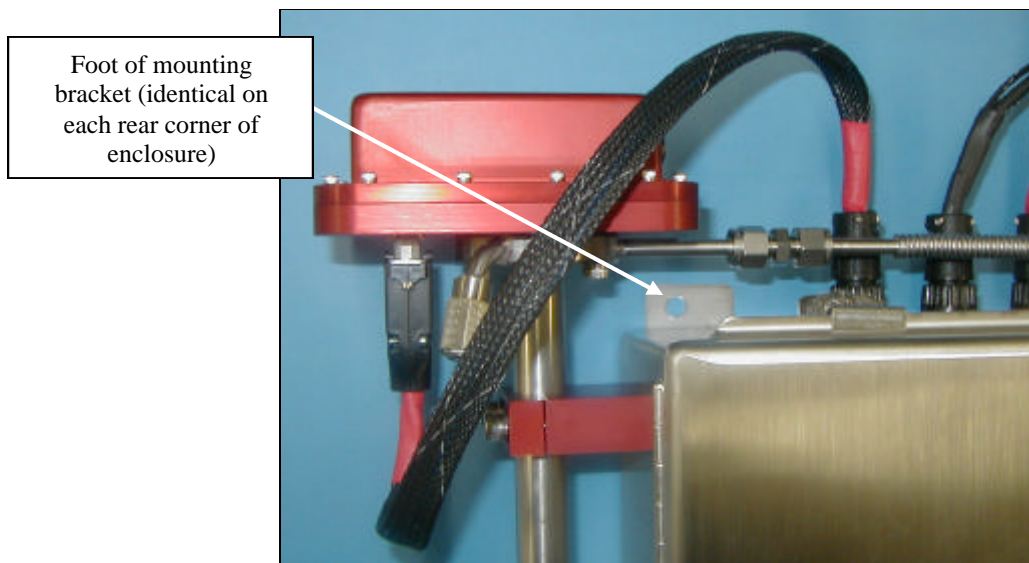

Figure 2 Main external components identified on 2000 Series gas sensor.
2. The 2000 Series has 4 mounting tabs with a 0.3-in. hole in each tab (see Figure 2). SpectraSensors recommends using ¼" lag bolts (or ¼-20 machine screws if through bolted).